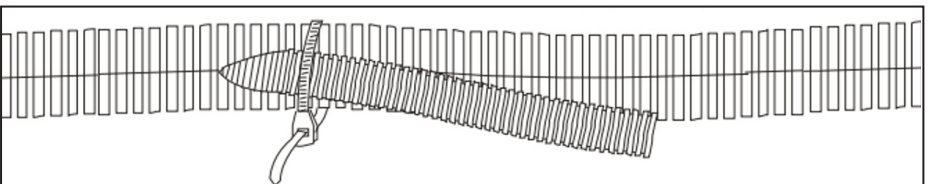

Figure 43 — Loom wire
- Use 1/4 in wire loom (not supplied) or equivalent protection to cover the wires, and secure the VMAC key switched wire to OEM harness with a cable tie (Figure 43).